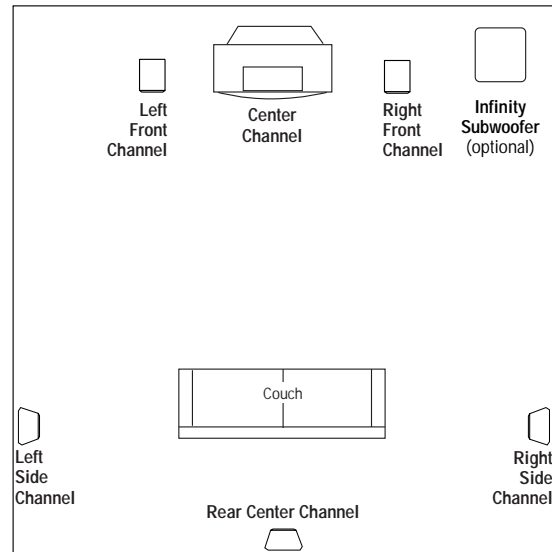

Figure 4. This overhead view shows a typical home theater plan with a single rear-center surround channel.
When using the Beta ES250 as a rear speaker(s) in a 6- or 7-channel home theater system, refer to Figures 4 and 5. The speaker(s) should be mounted on the rear wall facing the listening area, between the side channel speakers. If you are using one rear speaker, it should be mounted as close as possible to the center of the listening area. When using two rear speakers, they should be spaced evenly within the width of the listening area.
1. Decide where you want to mount the speaker. Ideally, it should be mounted in the center of the rear wall, similar to how it would be mounted in a 6-channel system (Fig. 4).